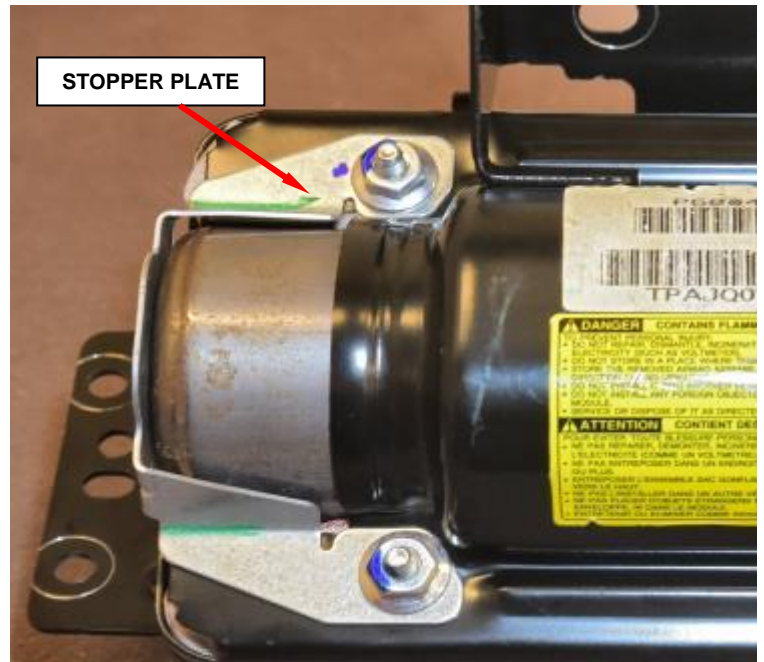

Figure 51 – Stopper Plate
- c. Remove and save stopper plate from housing (Figure 51).
- m. Position the stopper plate to the airbag housing (Figure 51).